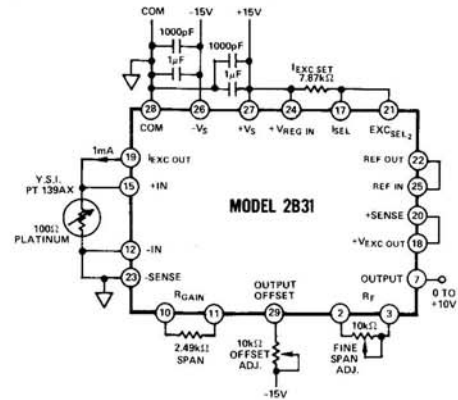

Figure 7. Platinum RTD Temperature Measurement
**Platinum RTD Temperature Measurement:** In Figure 7 model 2B31 provides complete convenient signal conditioning in a